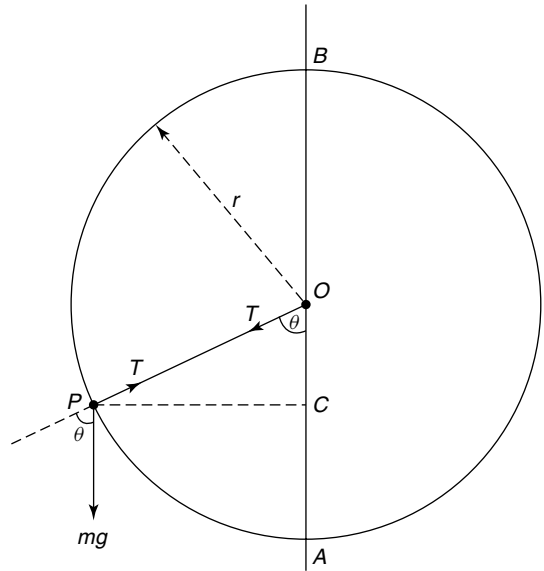

Figure 16.6 Motion in a vertical circle
**Problem 8.** Determine the minimum tangential velocity at A, namely,  $v_A$ , which will just keep the string taut at the point B for the particle moving in the vertical circle of Figure 16.6.
This Problem is best solved by energy considerations. Consider a particle P rotating in a vertical circle of radius r about a point O, as shown in Figure 16.6. Neglect losses due to friction.